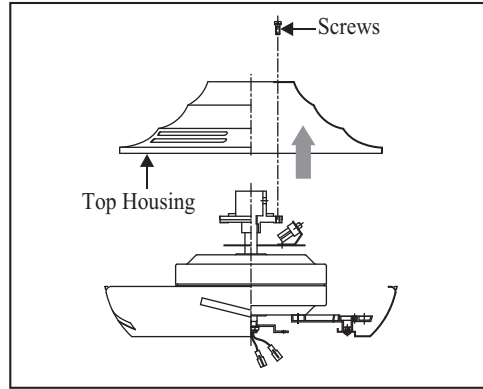

Figure 5
1. Remove the top fan housing from the motor by removing the 6 screws on the top fan housing . (fig. 5)